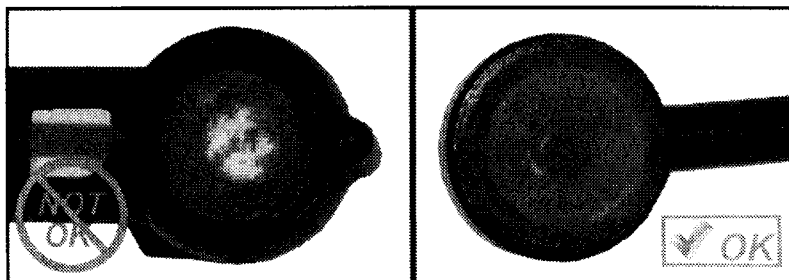

Figure 1 Open ball head
1. If closed ball head **IS** installed (OK, Figure 1): Procedure is complete.
2. If closed ball head is **NOT** installed (NOT OK, Figure 1): Proceed to subject B: **Install New Level Linkage**.